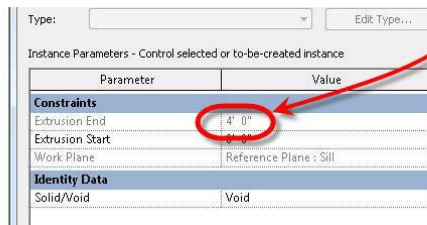

Figure 14. Establishing the height of the opening.
8. Click the small button to the left of the value for “Extrusion End” as shown in Figure 14. This will allow you to link the value to a Parameter.
9. Select the “Height” parameter as shown in Figure 14 and click OK. Note the value for “Extrusion End” is now greyed out and set to 4’-0”. It will now be driven by the “Height” parameter of the window.